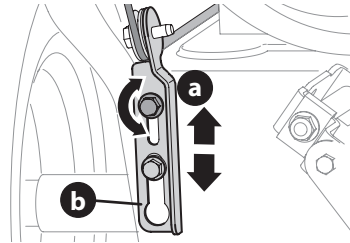

Figure 54
4. Allow auger to remain engaged for approximately ten (10) seconds before releasing auger control lever. Repeat this several times.
7. To readjust the auger control cable, loosen upper hex screw (a) (Figure 54).
8. Position auger control bracket (b) upward to provide more slack in cable or downward to increase tension (Figure 54).